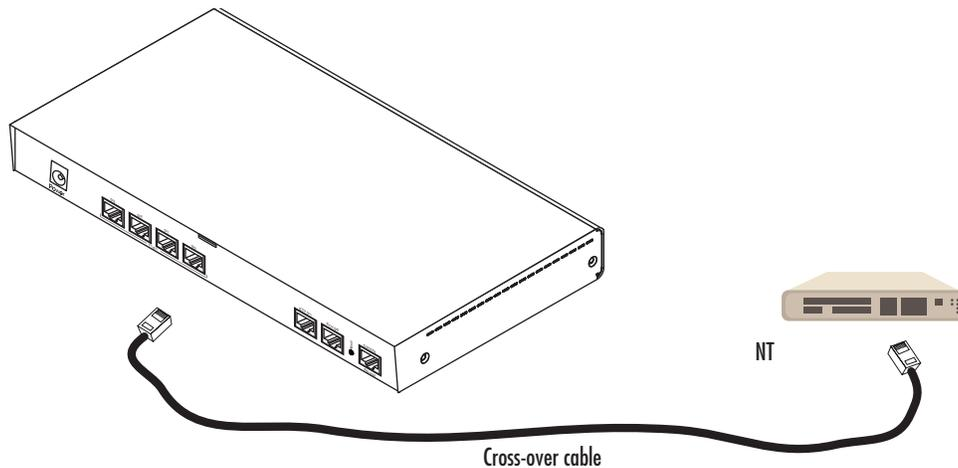

Figure 15. Connecting a T1 PRI port to an NT device
The T1 PRI is usually connected to a PBX or switch—local exchange (LE). Type and pin outs of these devices vary depending on the manufacturer. In most cases, a straight-through RJ-45 to RJ-45 can be used to connect the PRI with a PBX. A cross-over cable is required to connect to an NT device, as illustrated in figure 15 on page 61.